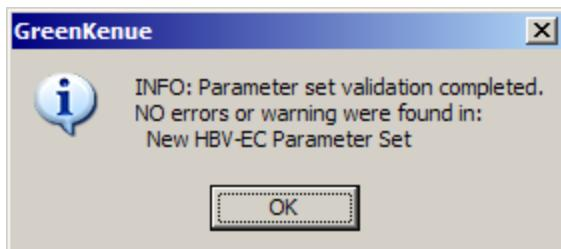

Figure 5.23: This message indicates that no errors were found
3. Select **Run→Check Parameters** from the menu bar. A dialog box will appear, listing any errors remaining in the parameter set. If there are no errors found, the message box shown in Figure 5.23 will appear.